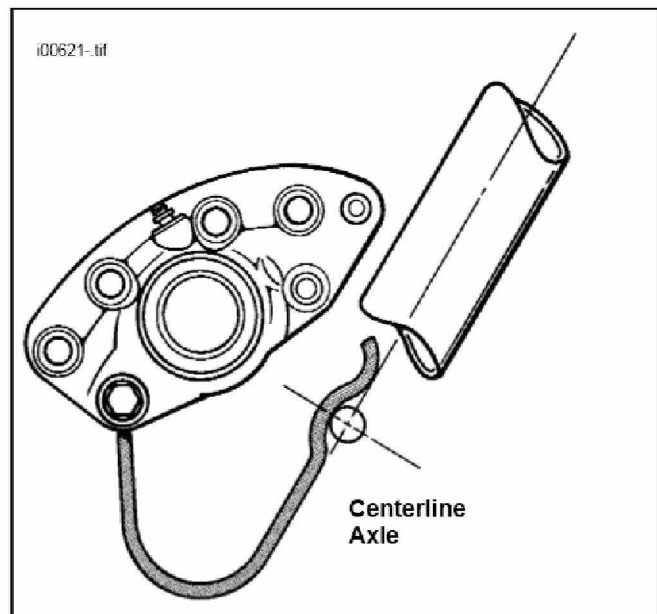

Figure 2. Spring Position
- See Figure 2. Insert mounting pin (9) through upper mounting hole in fork. Place brake pad (10) in cavity of inside caliper (14). Insert pad retainer pins (8) through holes in pad (10) and into blind holes in caliper (14).
- Place inside caliper, with pad (11) and pins (8), at inboard side of brake disc. Position caliper assembly so
- Install bridge bolts (13) and washers (14). Tighten bolts to 30-55 ft-lbs.
- Rotate spring (1) upward so detent in spring is over axle as shown in Figure 2.
- Place open end wrench over bolt (4) or (5) and tighten nut (6) to 21-27 ft-lbs.